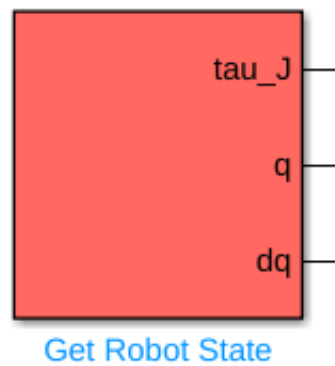

Figure 2 – Get Robot State block.
2. Get Robot State (Figure 2): Represents the sensor's block which outputs the states of the robot. You can have the parameters you want by double-clicking on this block and writing them in the Parameters section (Figure 3). The list of available signals can be found in this link: https://frankaemika.github.io/libfranka/structfranka_1_1RobotState.html